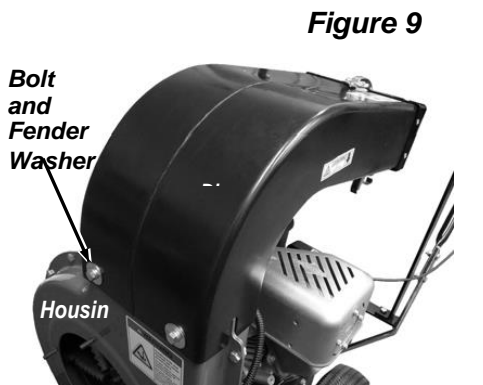

Figure 9
8. Place the Discharge Tube on top of the Housing (**Figure 9**). Be sure the discharge opening is directed to the rear of the machine and between the Handles. Secure the Tube to the front of the Housing with two 5/16" - 18 x 3/4" Self-Tapping Bolts and two 5/16 Fender Washers.